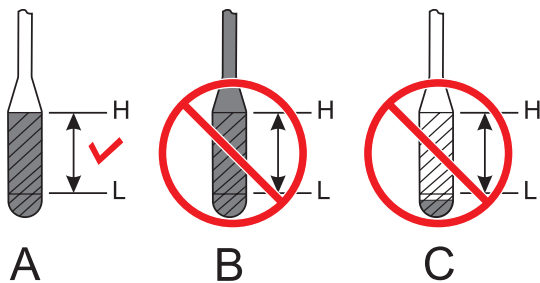

Figure 28. Engine Oil Level
3. Reinsert the dipstick, then remove the dipstick from its holder. Check the oil level shown on the dipstick (Figure 28).